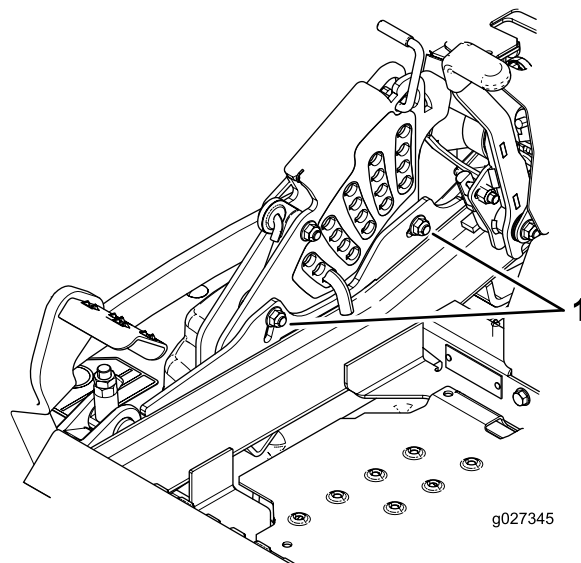

Figure 100
11. To adjust the single-point system, loosen the 2 bolts at the bottom of the height-of-cut plate (Figure 100).
13. Tighten the 2 bolts at the bottom of the height-of-cut plate (Figure 100).